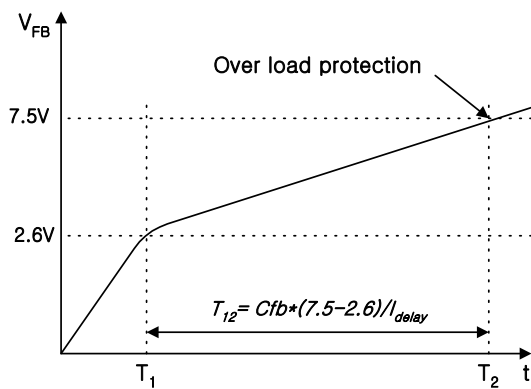

Figure 4. Over load protection
**3.2 Over Load Protection (OLP) :** Overload means that the load current exceeds a pre-set level due to an abnormal situation. In this situation, protection circuit should be activated in order to protect the SMPS. However, even when the SMPS is in the normal operation, the over load protection circuit can be activated during the load transition. In order to avoid this undesired operation, the over load protection circuit is designed to be activated after a specified period to determine whether it is a transient situation or an overload situation. Because of the pulse-by-pulse current limit capability, the maximum peak current through the SMPS is limited, and therefore the maximum input power is restricted with a given input voltage. If the output consumes beyond this maximum power, the output voltage ( $V_o$ ) decreases below the set voltage. This reduces the current through the opto-coupler diode, which also reduces opto-coupler transistor current increasing  $V_{fb}$ . If  $V_{fb}$  exceeds 2.6V, D1 is blocked and the  $5\mu\text{A}$  current source starts to charge  $C_{fb}$  slowly compared to when the  $0.9\text{mA}$  current source charges  $C_{fb}$ . In this condition,  $V_{fb}$  continues increasing until it reaches 7.5V, and the switching operation is terminated at that time as shown in figure 4. The delay time for shutdown is the time required to charge  $C_{fb}$  from 2.6V to 7.5V with  $5\mu\text{A}$ . When  $C_{fb}$  is  $10\text{nF}$  (103),  $T_{12}$  is approximately 9.8ms and when  $C_{fb}$  is  $0.1\mu\text{F}$  (104),  $T_{12}$  is approximately 98ms. These values are enough to prevent SMPS from being shut down during transient situations.